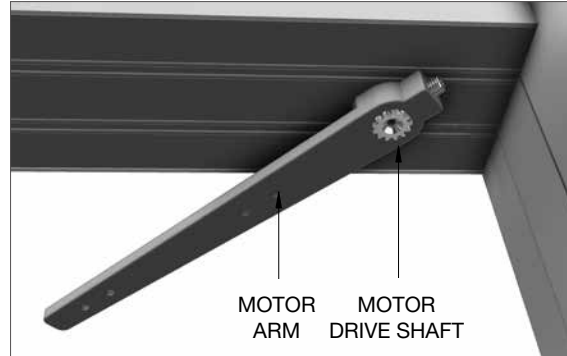

FIG. 32
6. Detach the Motor Arm from the door top by removing the (4) 1/4"-20 X 1" Hex Bolts. Do not remove the shim plate below the arm.
7. Slide the motor arm onto the protruding splined motor drive shaft but **Do Not** tighten the set screw on the end at this point (**FIG. 32**).